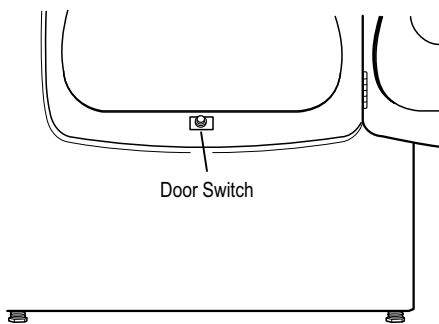

Figure 11. Door switch location.
- Check that the wires between the door switch and machine control electronics are connected. See Figure 11 for switch location, and see Removing the Front Panel/Drum Assembly.